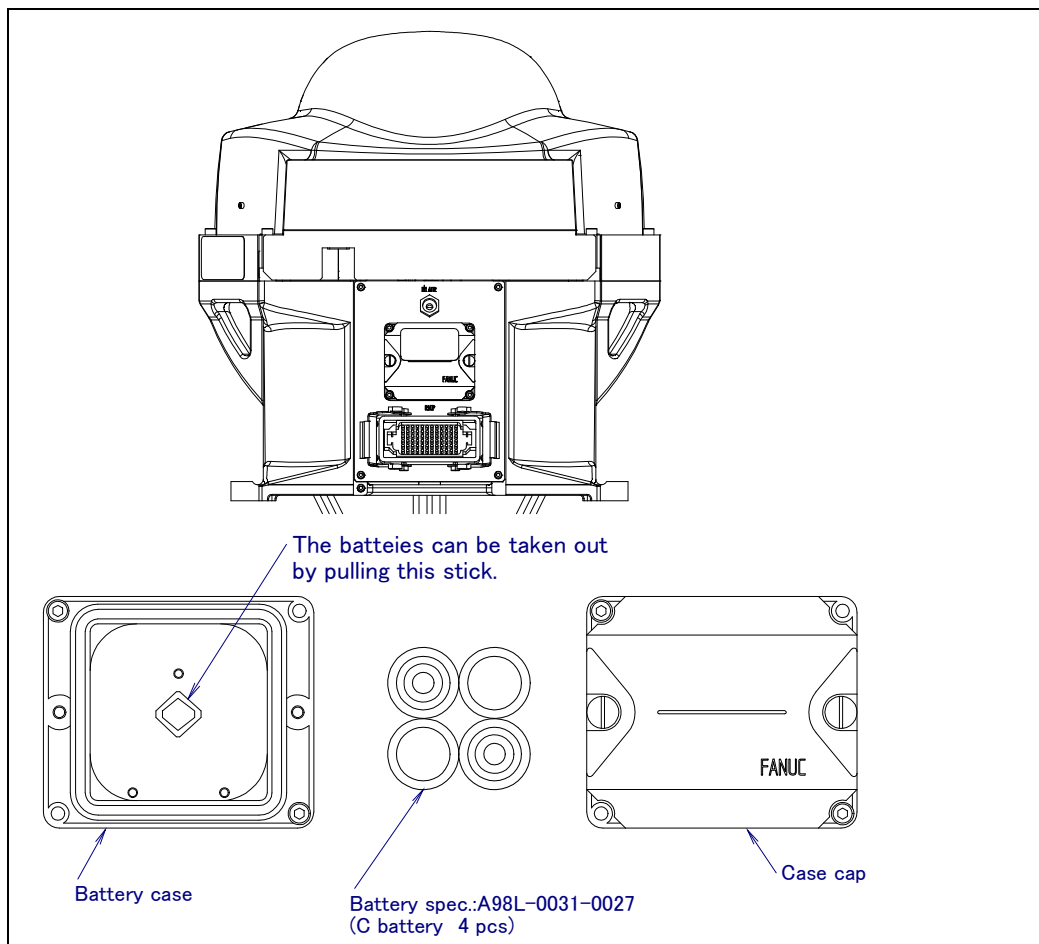

Fig. 6.3.1 (a) Replacing Batteries (with stand/no stand B)
- 2 Remove the battery case cap. (Fig. 6.3.1 (a))